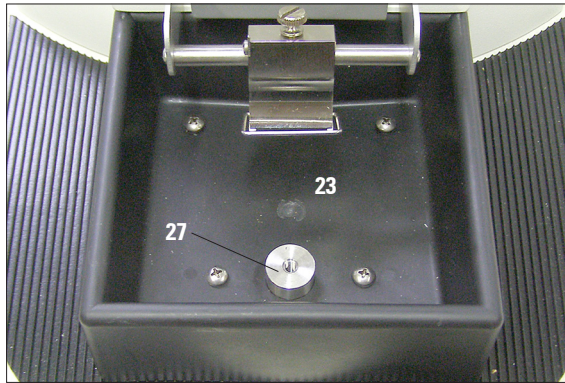
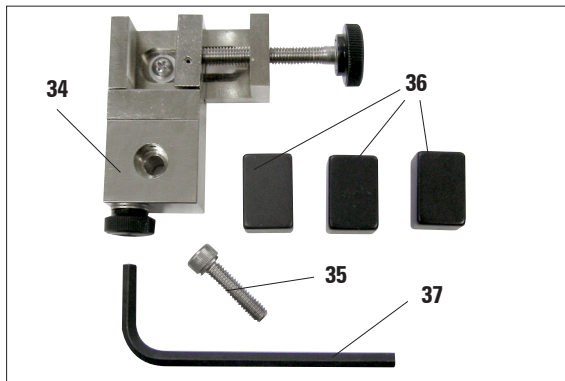
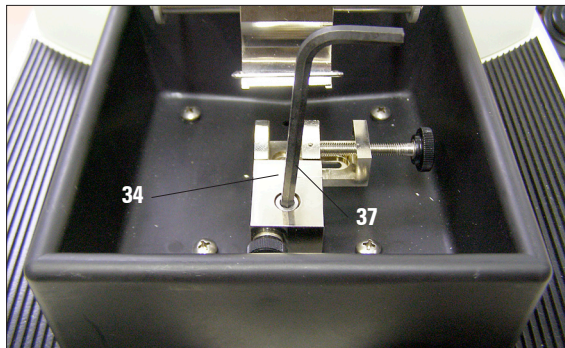

Fig. 15
Fig. 16
Fig. 17
- The specimen vice assembly (34, Fig. 16) is assembled inside the main specimen bath (23, Fig. 15).
- Insert the cheese head screw (35) into the bore of the specimen stage (27) and tighten it using a size 5 Allen key (37, included in the scope of delivery).
- When tightening, ensure that the fixture (34) is parallel to the front edge of the Vibratome tray (Fig. 17).
- To do so, first remove the specimen vice assembly (34, Fig. 16) by following the reverse order of steps as described in Chap. 4.7.